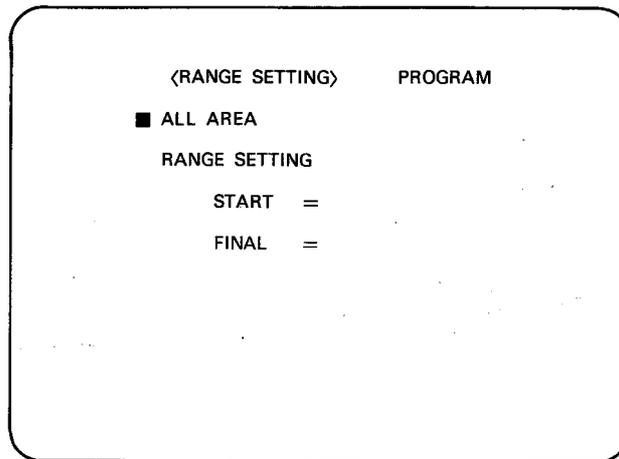

Fig. 6.2
- (3) If range setting is required, the screen shown in Fig. 6.2 is displayed. Using the and/or key, move the cursor to "ALL AREA" or "RANGE SETTING" as required and press the key. The "*" mark is displayed at the selected position.